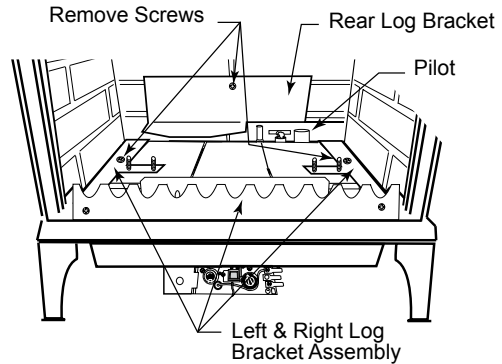

Fig. 50 Remove rear log bracket and left and right log bracket assembly.
5. Remove the rear log bracket by unfastening the screw. (Fig. 50)
6. Remove the right and left log bracket assembly by unfastening the two screws which hold the burner in place. (Fig. 50)
1. Locate pilot. (Fig. 50)